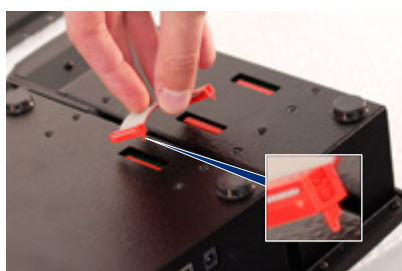

Figure 5-3: Insert the flat ribbon cable
7. Insert the flat ribbon cable into both connectors until firmly seated. Ensure that the nose of the flat ribbon cable faces the back of the device (Figure 5-3).